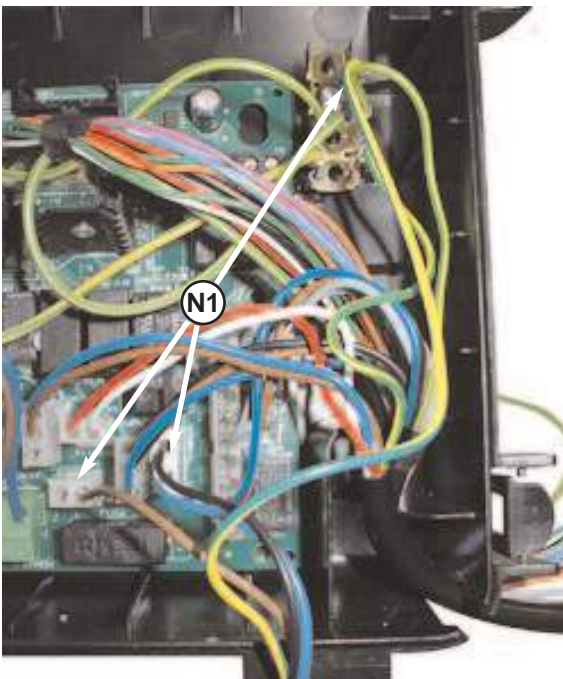

Fig. 18.42
3. Disconnect electrical connections "N1" on the P.C.B. (see Fig. 18.42);